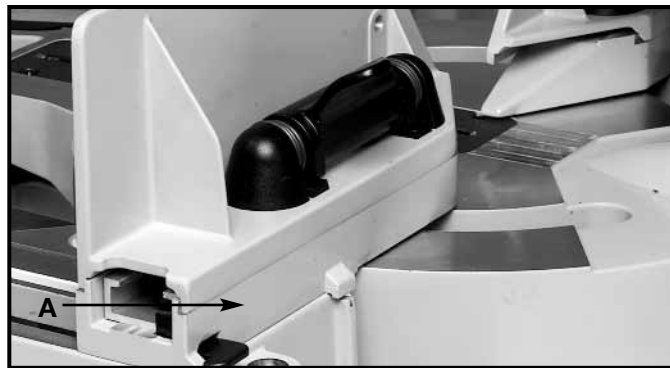
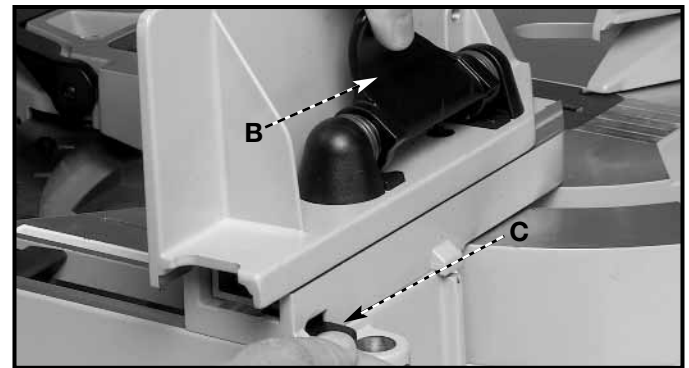

Fig. 7
Fig. 7A
The saw is supplied with left and right fence segments (A) Fig. 7 that incorporate a squeeze clamp feature. To operate the fence segment(s) or to slide to another location, squeeze the clamp (B) Fig. 7A & 8A to disengage the lock. Slide the fence to desired location and release to lock the fence. To remove either fence, depress lever (C) and slide it off the fence base. **NOTE:** The sliding fence segments can be reversed left to right for minimal clearance cutting.